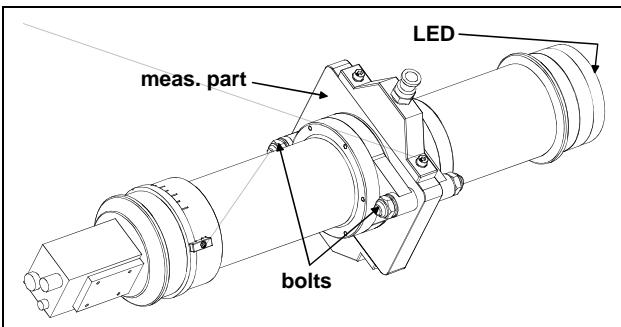

Figure 1. Construction of optical assembly. The measuring part will come loose when the bolts are removed.
- Removing the measuring part – Fig. 1 & 3.
- Replacing the LED unit – Fig. 1 & 3.